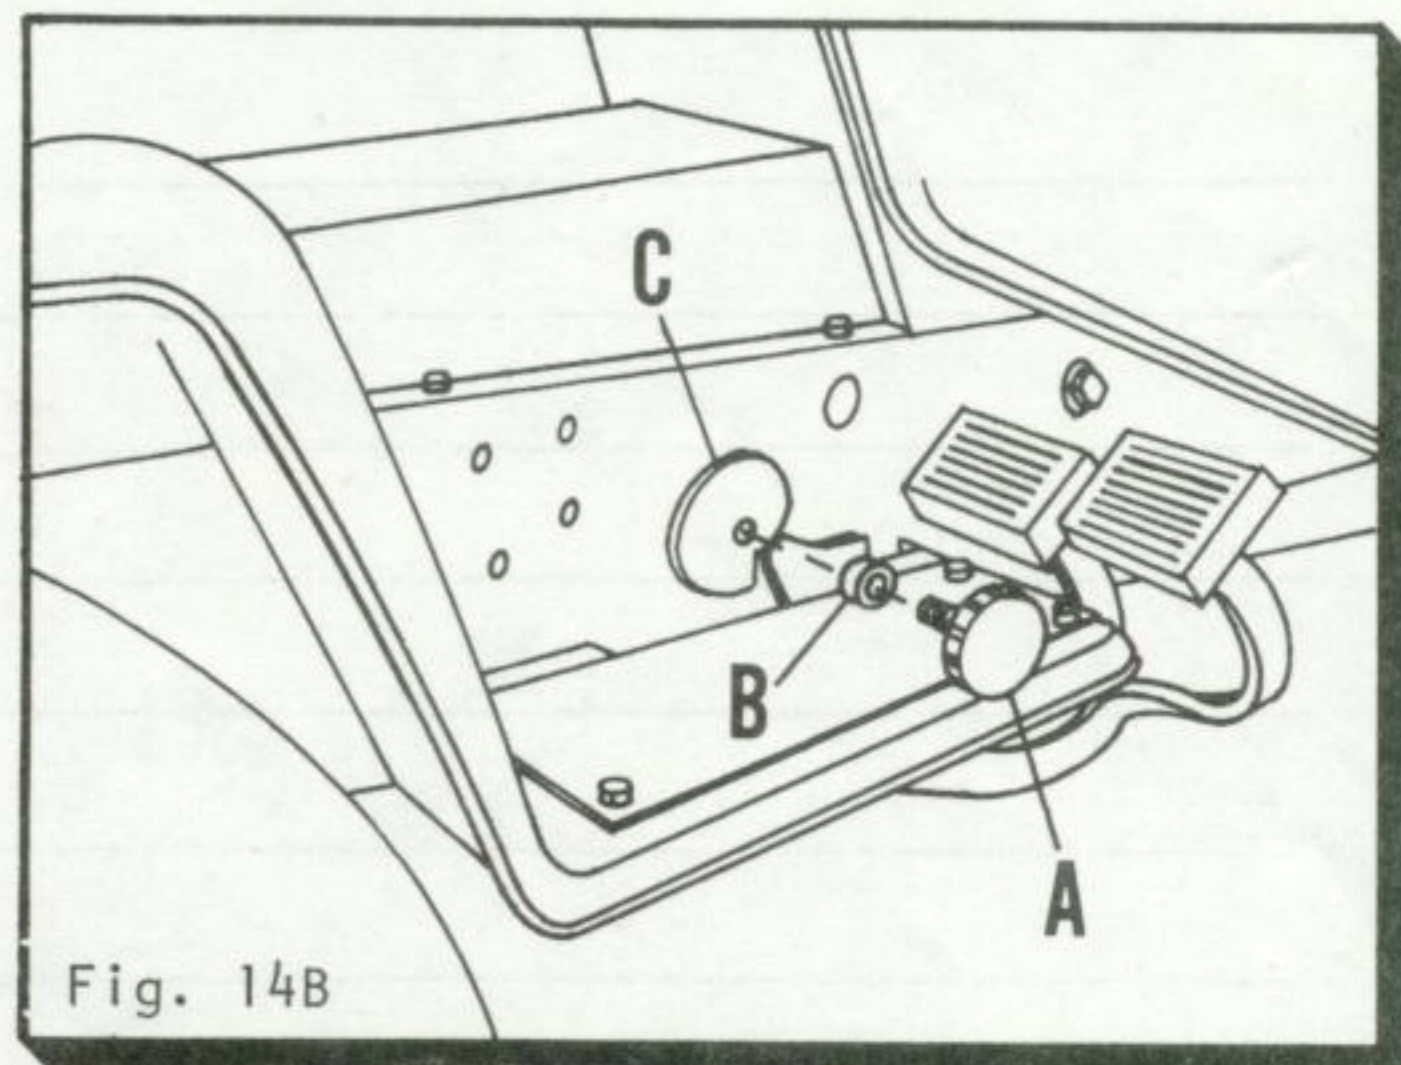

Fig. 14B
1. Unscrew and remove lift knob (A).
2. Place lift knob spacer (B) onto threads of lift knob (A). (See Fig. 14B)
3. Screw lift knob (A) back into tractor, adjust cam stop (C) to desired position and tighten lift knob (A).